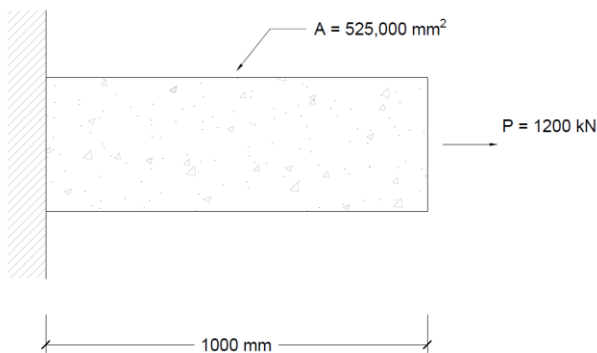

Fig. 1a – Unrestrained member for 4a
**4a.** Consider the following block of concrete shown in Figure 1a which is rigidly attached to a wall on its left side only. The block is pulled with an axial force  $P = 1200$  kN which causes tensile stresses to develop in the member. At the same time, the ambient temperature increases by  $\Delta T = +15^\circ\text{C}$ .